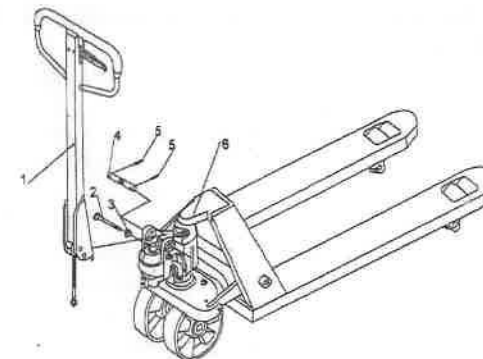

Fig.5 Tiller assembling
- c) Press the tiller arm down; take away the pin (2, Fig. 5).
- d) Set the control lever of the handle to 'RAISE' position, then raise the lever plate with the pin (2, Fig. 5) and insert the adjusting bolt into the front slot of lever plate. **Note:** Keep the adjusting nut under the lever plate.
- e) Use a hammer to insert the 2nd dowel pin (5, Fig. 5) into the 2nd hole of the axle. The draw-bar is now assembled to the pump.